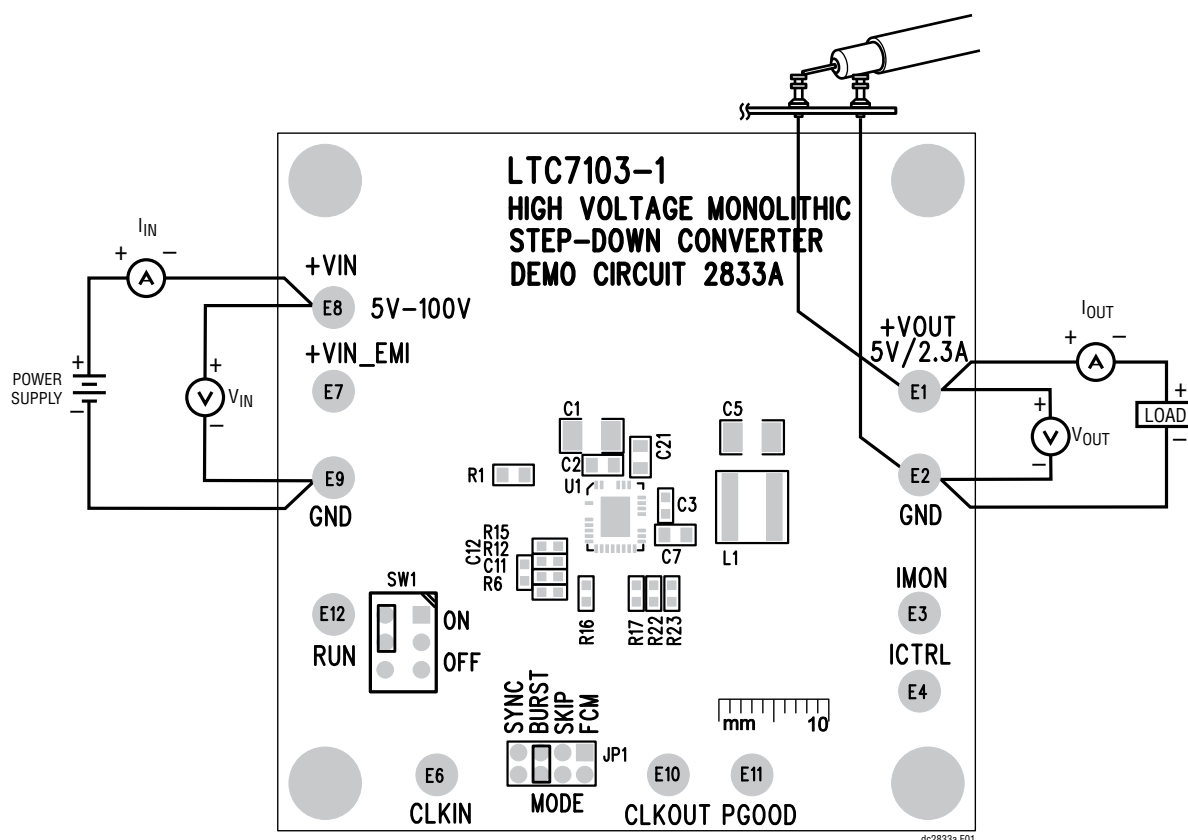

Figure 1. Proper Measurement Equipment Setup
Refer to Figure 1 for proper measurement equipment setup and follow the procedure below.
**Note:** When measuring the output voltage ripple, care must be taken to avoid a long ground lead on the oscilloscope probe. Measure the output voltage ripple by touching the probe tip and ground ring directly across the last output capacitor as shown in Figure 1.